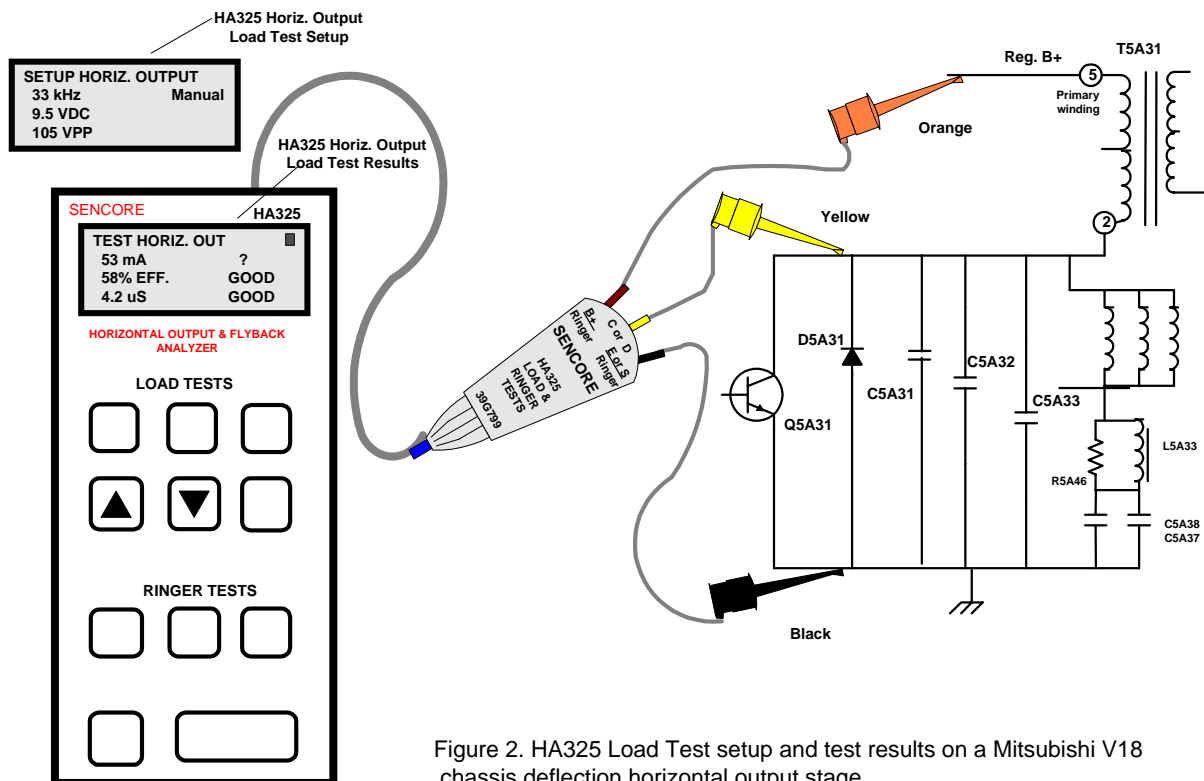

Figure 2. HA325 Load Test setup and test results on a Mitsubishi V18 chassis deflection horizontal output stage.
The Horiz. Output Load Test connections, setup and test results on a Mitsubishi V18 chassis horizontal deflection output stage is shown in figure 2. Test lead connections include connecting the orange clip to the B+ input or pin 5 of T5A31, black clip to ground, and the yellow clip to the collector of Q5A31 or pin 2 of T5A31.
1. Remove Power to the Chassis – Connect test clips as shown in figure 2.